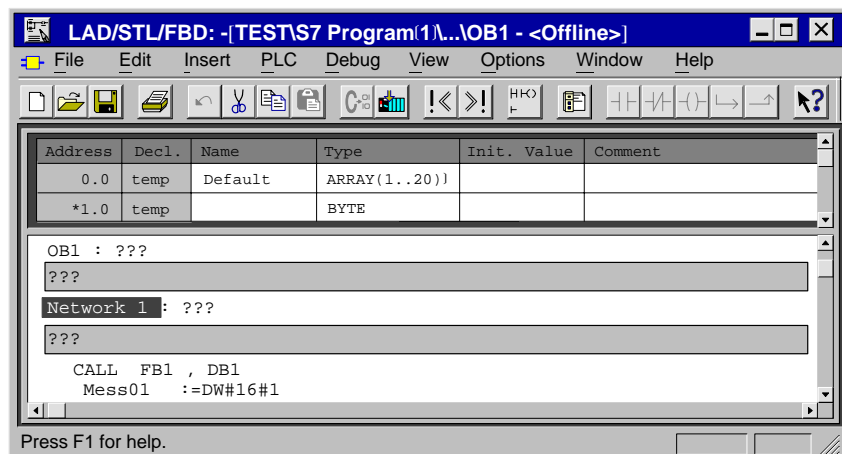

Figure 12-4 Example of the Display of the Function Block Input Variables in the Organization Block
**Result:** The instance data block is created. In the code section of the organization block the input variables of the associated function block, here “Mess01” and the message number allocated by the system, here “1” are displayed (see Figure 12-4).